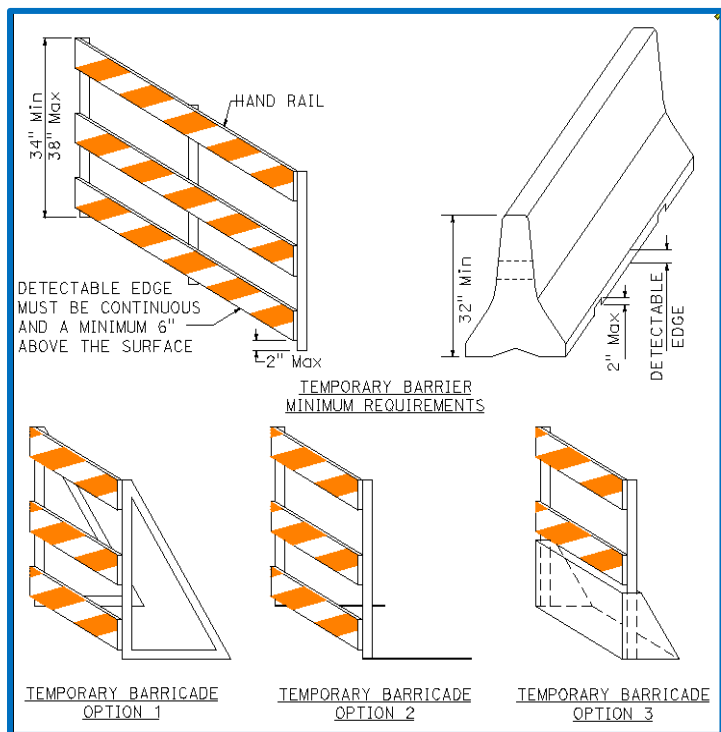

Figure 5 Channelizing Device Options
- Where barricades channel pedestrians, continuous detectable bottom and top rails must be used, with no gaps between individual barricades for users of long canes. The bottom of the bottom rail must be no higher than 2 inches above the ground surface. The top of the top rail must be at least 32 inches above the ground. Refer to Part 6, Sections 6F.63 and 6F.68 of the California MUTCD (See Figure 5.)